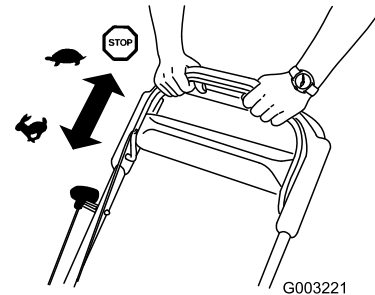

**Figure 17**
2. Push the electric-start button (electric start model only) (Figure 16) or pull the recoil-start handle (Figure 17).